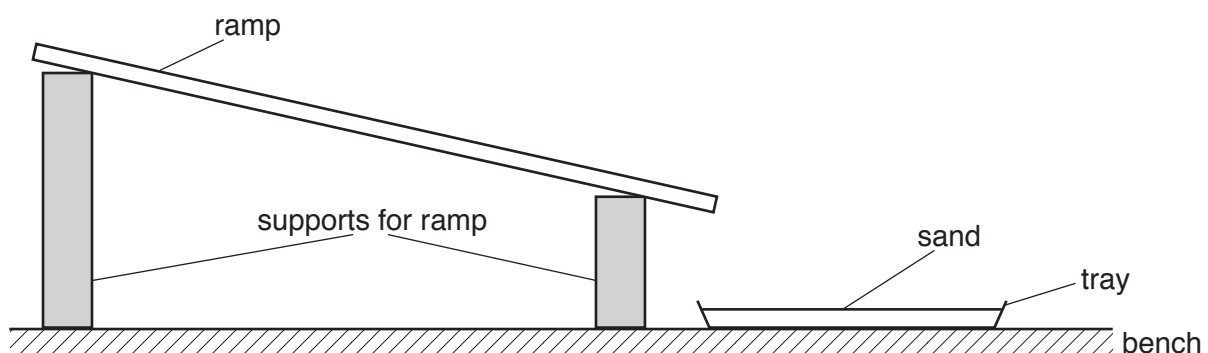

Fig. 3.1
3. The Supervisor should set up the apparatus as shown in Fig. 3.1 with one end of the tray vertically below the lower edge of the ramp. The Supervisor should try out the procedure described in Note 2. If the sphere overshoots the tray, then a longer tray should be used. The position of the tray should then be marked so that it can easily be returned to this position at the changeover.
4. At the changeover the Supervisor should ensure that the apparatus is set up as in Fig. 3.1. The surface of the sand should be smooth and the metre rules should be on the bench.